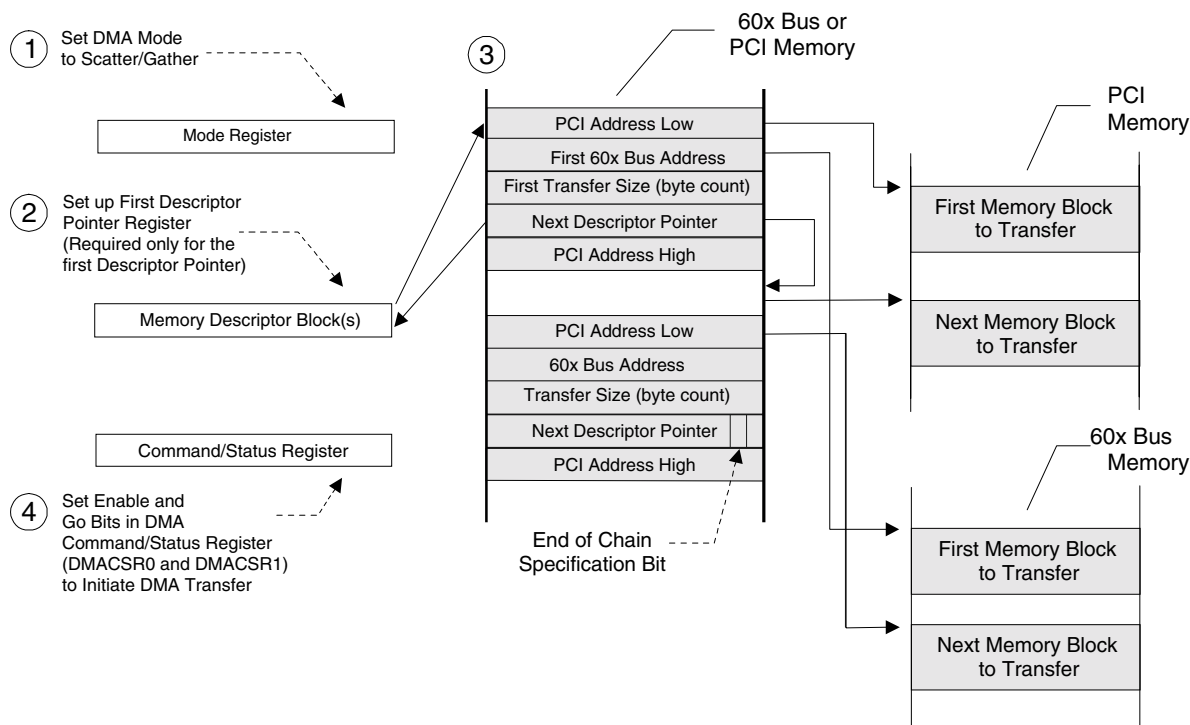

Figure 3-14. Scatter/Gather DMA Mode Descriptor Initialization [DAC PCI Address (DMAMODEx[18]) Descriptor Dependent] (PCI Address High Added)
- DMADACx contains a non-zero value. DMAMODEx[18] is set to 1. The PCI 9610 performs a SAC five-Lword descriptor block load from PCI memory and DMA transfer with DAC on the PCI Bus. (Refer to Figure 3-14.)
- DMADACx contains a non-zero value. DMAMODEx[18] is set to 1. The PCI 9610 performs a SAC five-Lword descriptor block load from PCI memory and DMA transfer with DAC on the PCI Bus. The fifth descriptor overwrites the value of the DMADACx registers. (Refer to Figure 3-14.)